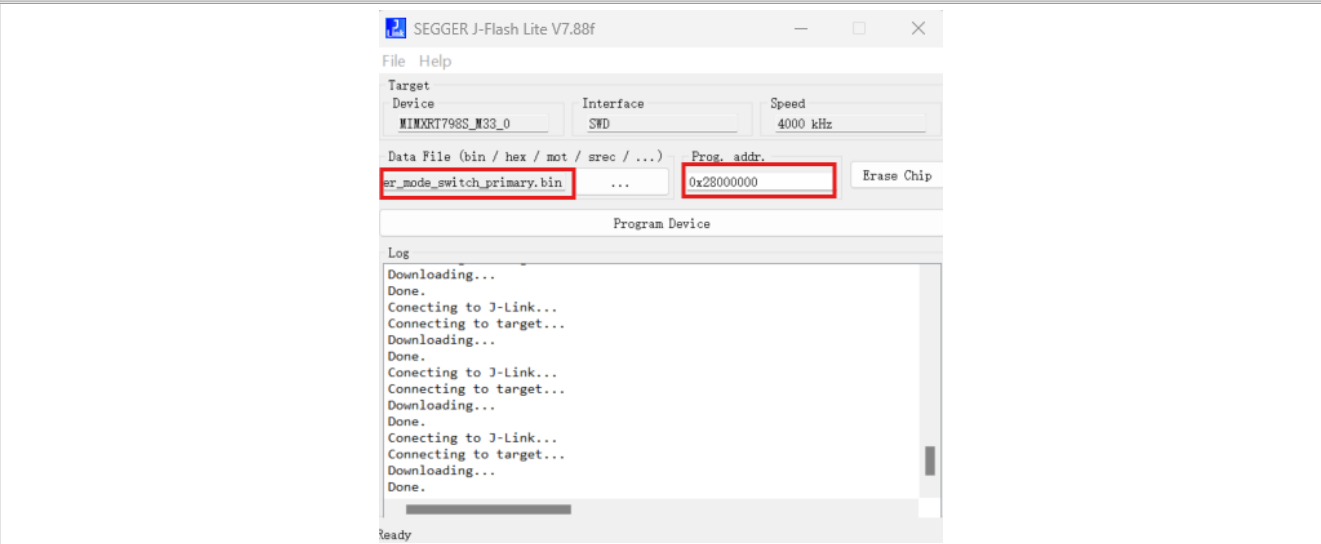

Figure 21. Download the image
- Download the image to the address `0x28000000`. Figure 21 shows an example of downloading an image to the address `0x28000000` with JLINK.